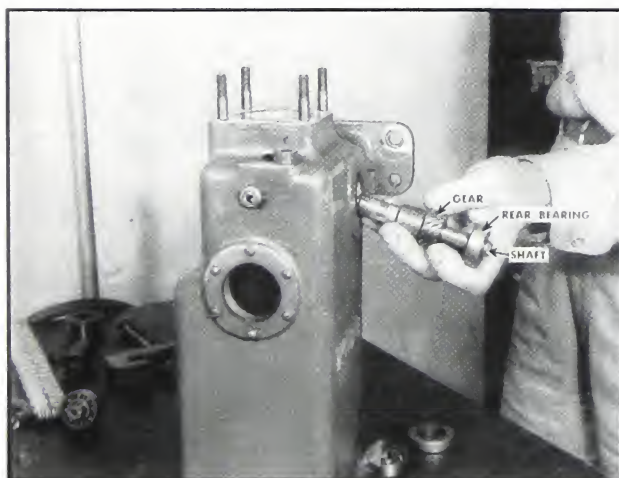

Fig. 5-382. Replace drive shaft
4. Drive the drive shaft assembly in position. Drive with care to avoid damage to the large bearing and oil seal that were pressed in the housing previously. Fig. 5-382.